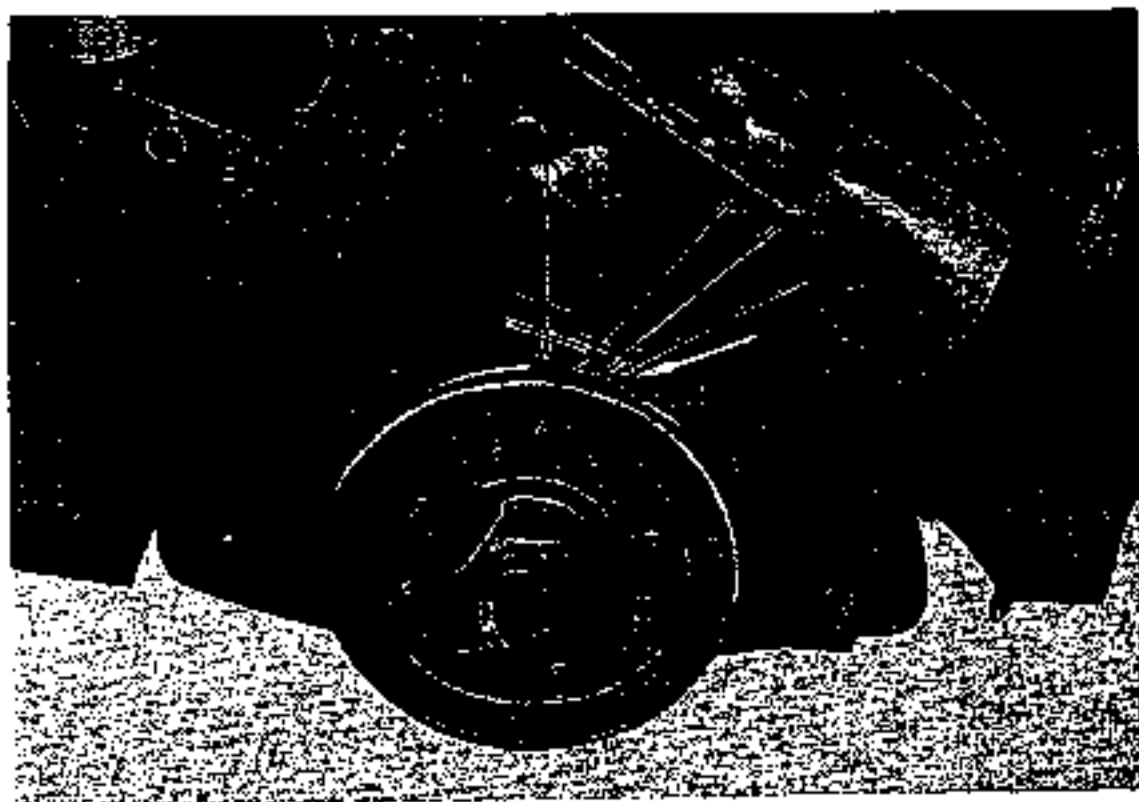

Fig. 3 Checking the Ignition Timing
The ignition timing is adjusted to 10 degrees before top dead center with the engine stopped as shown in Fig. 3. With this adjustment, the automatic timing advancer of the distributor advances the ignition timing even further at the time the engine starts to rotate, and the timing is maintained constantly at valves suitable for the rotational speed.
2. Turn the crankshaft gradually until the top dead center mark (Fig. 3) on the pulley periphery coincides with the mark for 10 deg. before top dead center on the timing gear cover as the crankshaft approaches its position somewhat before that corresponding to the end of the compression stroke of the No. 1 piston. Stop the crankshaft in this position. The compression stroke of the No. 1 piston can be determined if the spark plug of the No. 1 cylinder is removed, the hole plugged with a finger, and the crankshaft turned. With the crankshaft in the previously-mentioned position, the No. 1 piston is in its position of 10 deg. before top dead center of compression.